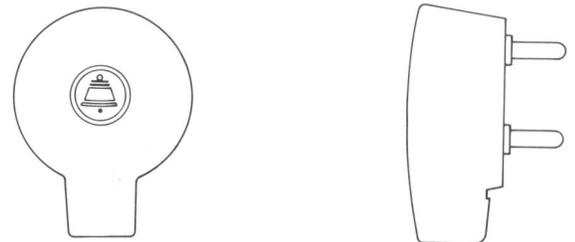

Fig. 6—505A-49 or -50 Plug
**2.05 505A-49 and -50:** The 505A-49 and -50 plugs (Fig. 6) consist of a block of insulating material containing four terminals and a removable cap. The 505A-49 and -50 plugs mate with the 404B, 493A, 497A, 548A, or 550A jacks in one position only. The 505A-49 and -50 plugs are used with portable telephone sets having two-, three-, and four-conductor mounting cords.